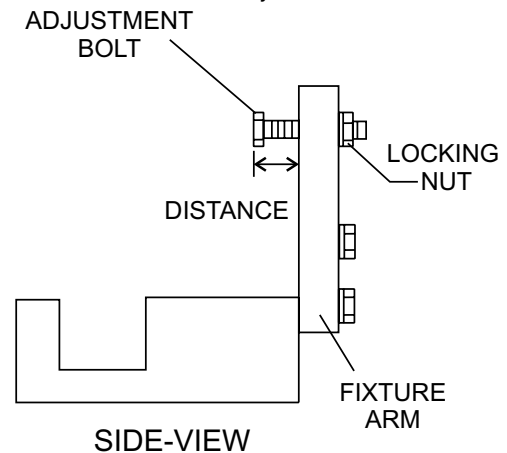

Figure 44. Trowel Arm Adjustment Tool Side View
Shown in Figure 44 is the adjustment fixture with a trowel arm inserted. As each trowel arm is locked into the fixture, the arm bolt is adjusted to where it contacts a stop on the fixture. This will consistently adjust all of the trowel arms, keeping the finisher as flat and evenly pitched as possible.
5. Adjust the bolt "distance" shown in Figure 44 to match one of the arms. The other arms will be adjusted to match this distance.